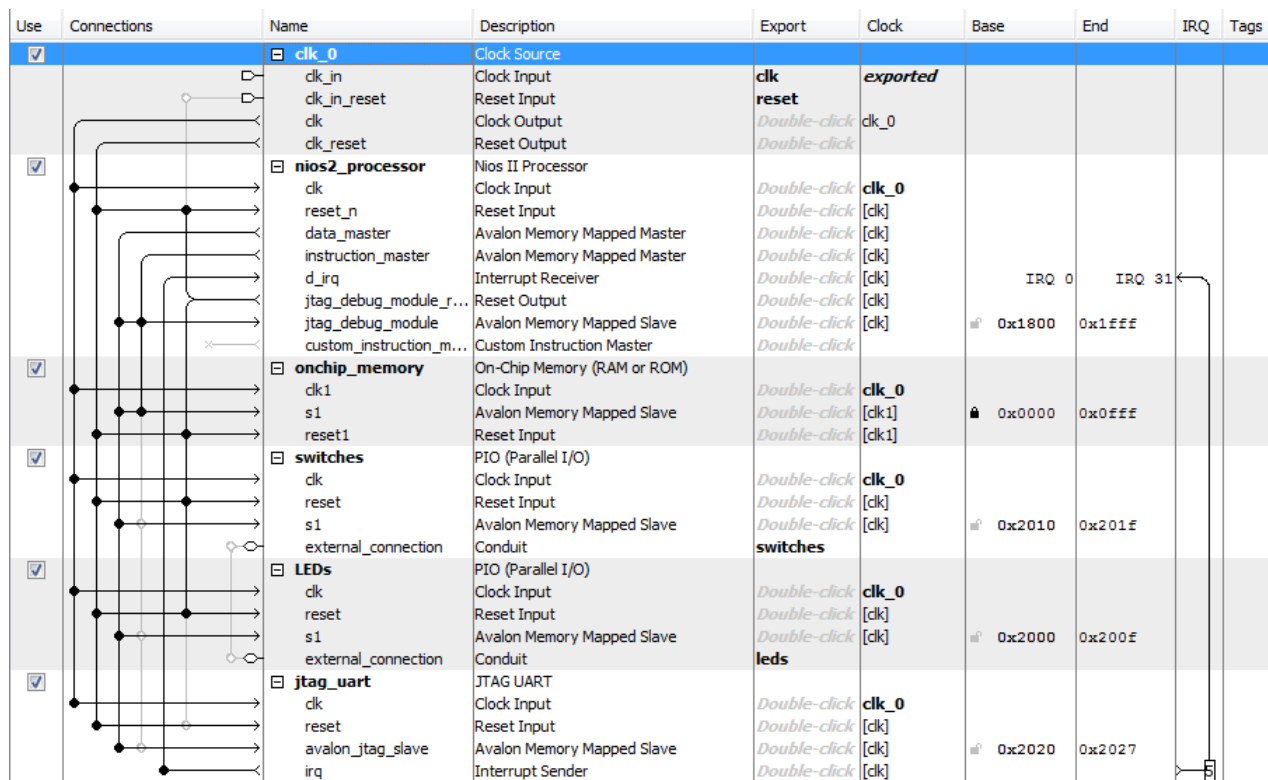

Figure 18. The complete system.
14. So far, we have specified all connections inside our `nios_system` circuit. It is also necessary to specify connections to external components, which are switches and LEDs in our case. To accomplish this, double click on Double-click to export (in the Export column of the System Contents tab) for external_connection of the switches PIO, and type the name `switches`. Similarly, establish the external connection for the lights, called `leds`. This completes the specification of our `nios_system`, which is depicted in Figure 18.